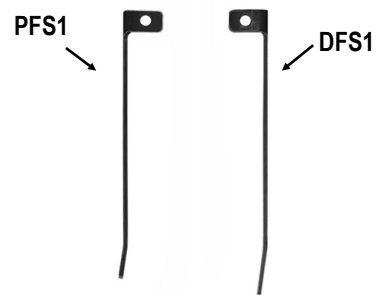

Fig 13
Select (1) Passenger Front Long Support Bracket (**PFS1**), **(Fig 13)**. Determine the correct factory hole to use: